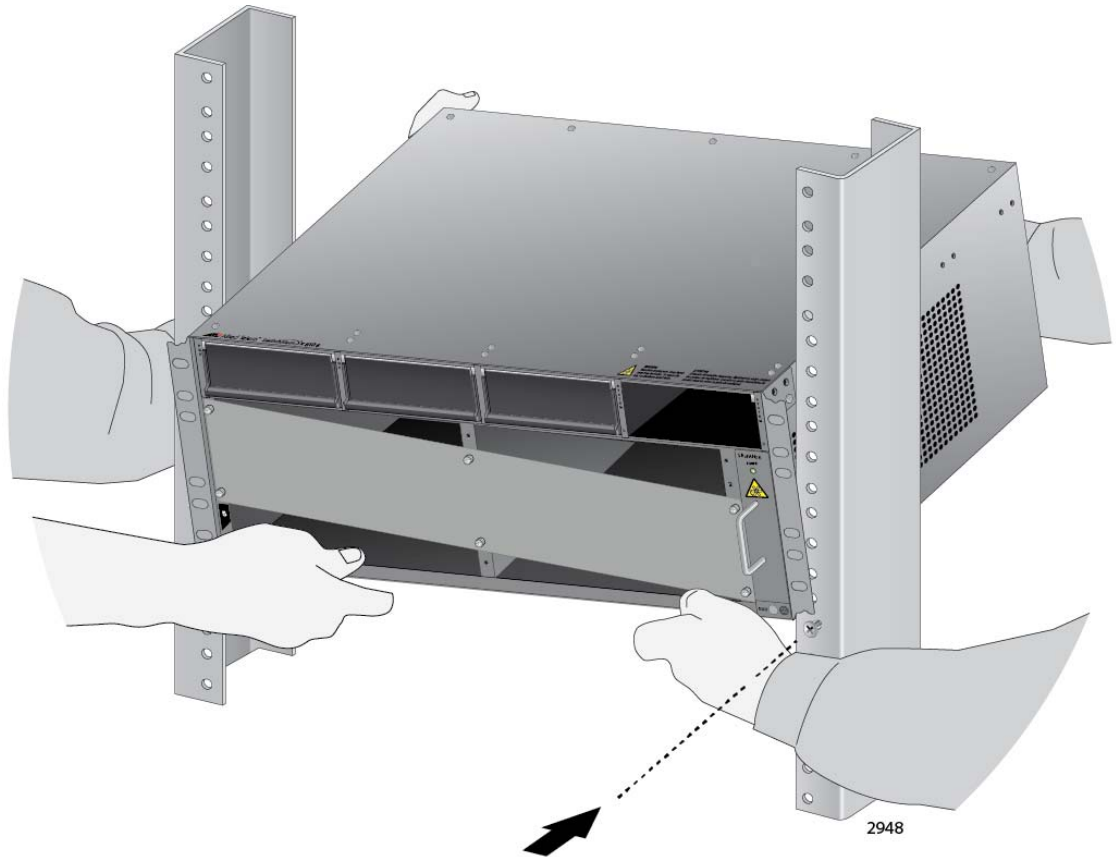

Figure 42. Lifting the AT-SBx8106 Chassis into the Equipment Rack
2. Lift the AT-SBx8106 Chassis into the equipment rack and set the bottom of the equipment rack brackets firmly on the two equipment rack screws you installed in “Preparing the Equipment Rack” on page 107, as shown in Figure 42.